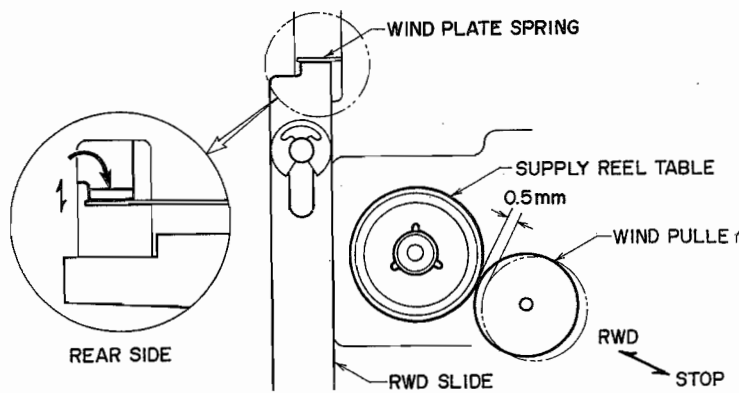

Fig. 14
5. RWD SLIDE ADJUSTMENT (See Fig. 14)